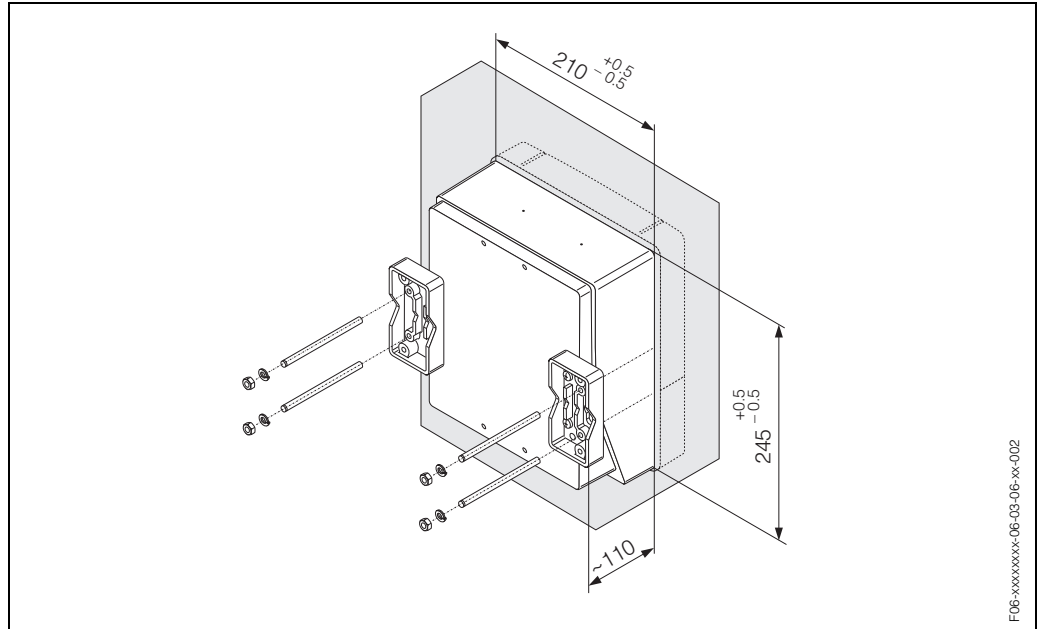

Fig. 15: Panel mounting (wall-mount housing)
1. Prepare the opening in the panel (Fig. 15).